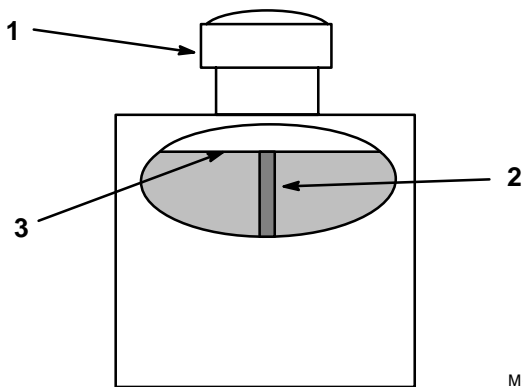

Figure 8
2. Clean area around filler neck of hydraulic tank (Fig. 8).
3. Remove cap from filler neck and look inside to check fluid level. Fluid level should be to the top of baffle inside the tank (Fig. 8).